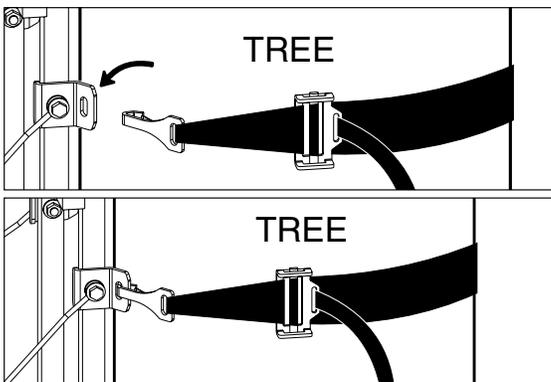

Figure 4
- b. Take buckle and wrap around tree. Be sure the strap is even and at the same level all the way around the tree. Also, be sure there are no twists in the strap. Connect hook to opposite side of stand by inserting thru hole (slot) provided. **SEE FIGURE 4.**
- c. Pull on excess end of strap firmly - snugging up stand to tree. **SEE FIGURES 4 & 5.**
**DO NOT TWIST STRAP WHEN ATTACHING. SEE FIGURE 4 FOR CORRECT ATTACHMENT.**